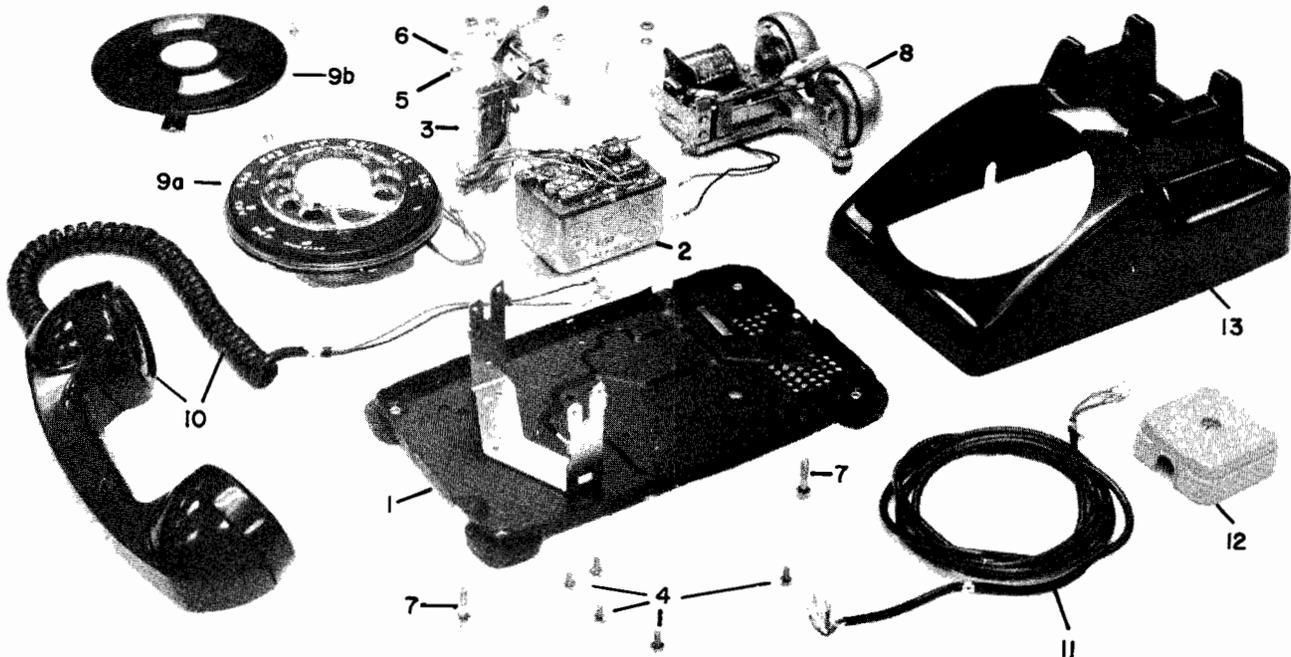

Fig. 3-1 COMPONENT PARTS - EXPLODED VIEW
3.1 The exploded view of Fig. 3-1 shows all the component parts and sub-assemblies of the K-500 basic instrument. Procedures for disassembly and assembly are given below. Additional parts which